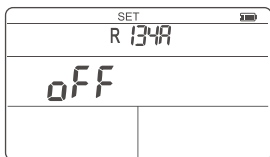

FIG. 9 Automatic Shutdown Interface
2. Short press the **MODE** button twice to switch to the automatic shutdown setting [FIG.9].